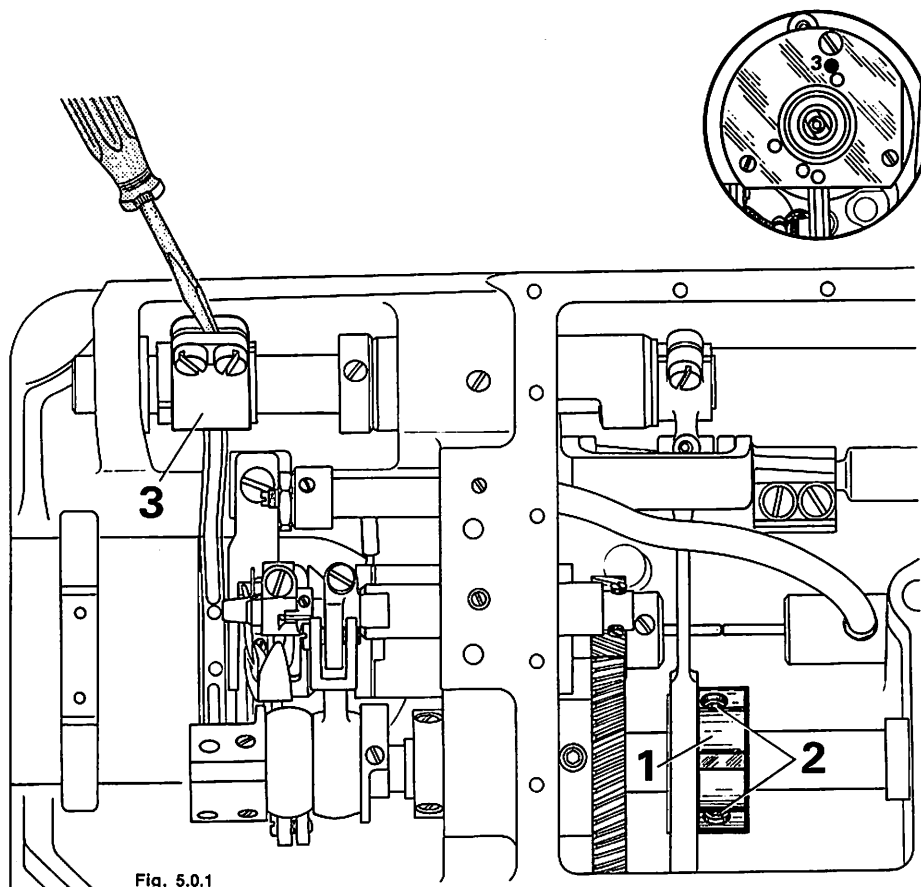

Fig. 5.0.1
- 5.4. To facilitate adjustment, push the screwdriver into the slot of feed rock shaft crank 3 (Fig. 5.0.1.).
- 5.5. Move the reverse-feed control up and down and simultaneously turn the feed driving eccentric until its notch is visible and the feed dog (or rather the screwdriver in feed rock shaft crank 3) is completely motionless (Fig. 5.0.1.).